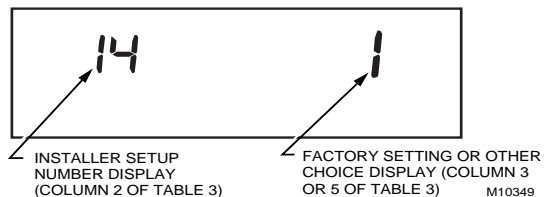

Fig. 11. Display of Installer Setup number and option.
1. Press and hold the **Information** , **Increase** , and **Decrease**  keys at the same time until all display segments and the first setup number displays (all display segments appear for approximately three seconds before the setup number displays). See Figs. 11 and 12.